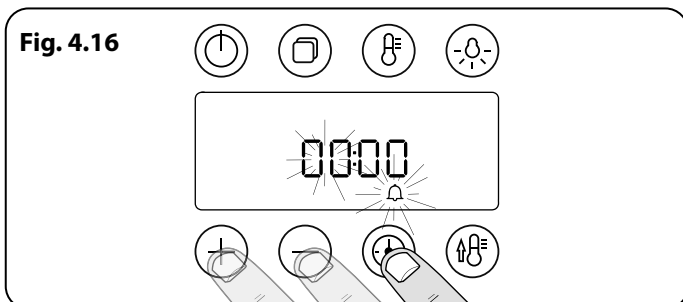

Fig. 4.16
1. Tap the timer button once to enter the minute minder (**Fig. 4.16**).
2. The hours will start to flash. Set the hours using the [+] or [-] buttons (**Fig. 4.16**).